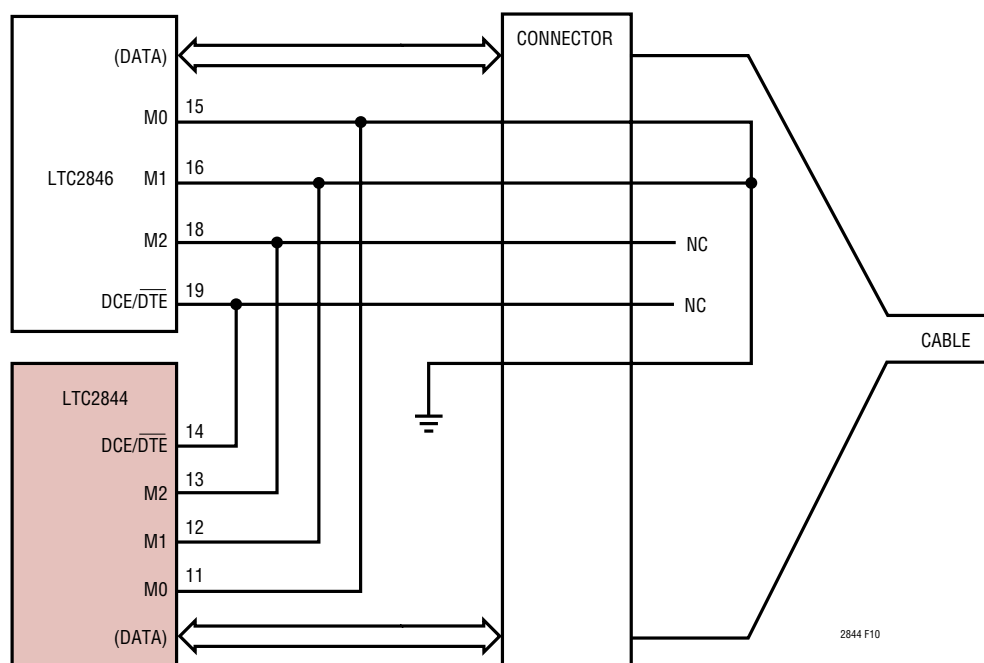

Figure 10. Single Port DCE V.35 Mode Selection in the Cable
The interface protocol may be selected simply by plugging the appropriate interface cable into the connector. The mode pins are routed to the connector and are left unconnected (1) or wired to ground (0) in the cable as shown in Figure 10.